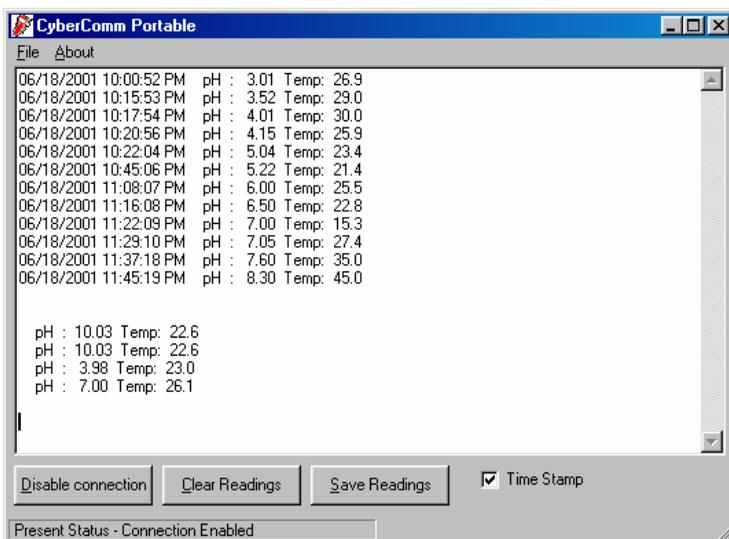

Figure 55 - A set of data print in Data Acquisition program
4. With the pH 100 meter switched on, press the PRINT key to send data to the computer. See Figure 55 below.